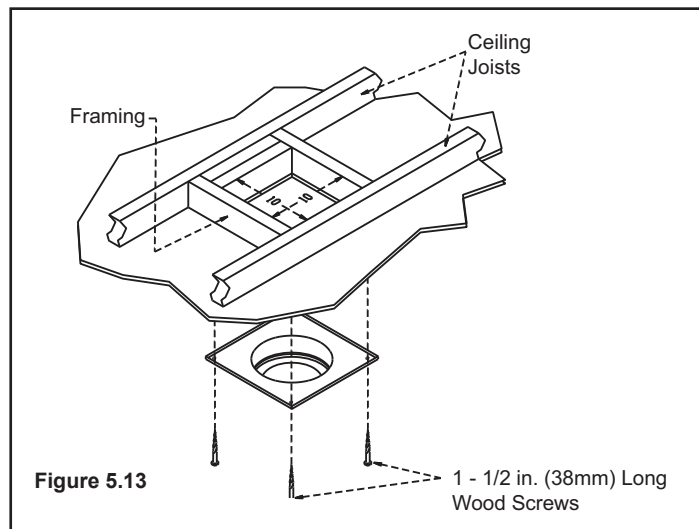
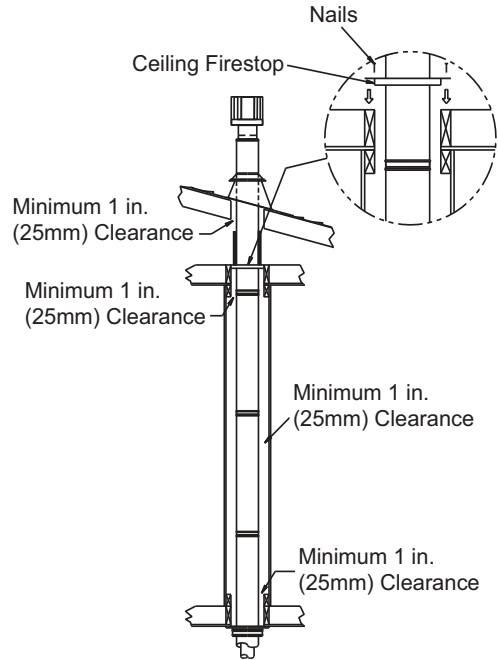

Figure 5.13
Figure 5.16
To install the round support box/wall thimble cover in a flat ceiling, cut a 10 in. (254mm) square hole in the ceiling, centered on the hole drilled in Step 2. Frame the hole as shown in **Figure 5.13**.
**Note:** For multi-story vertical installations, a ceiling firestop is required at the second floor, and any subsequent floors (**Figure 5.16**). The opening should be framed to 10 in. x 10 in. (254mm x 254mm) inside dimensions, in the same manner as shown in **Figure 5.13**, on the previous page.